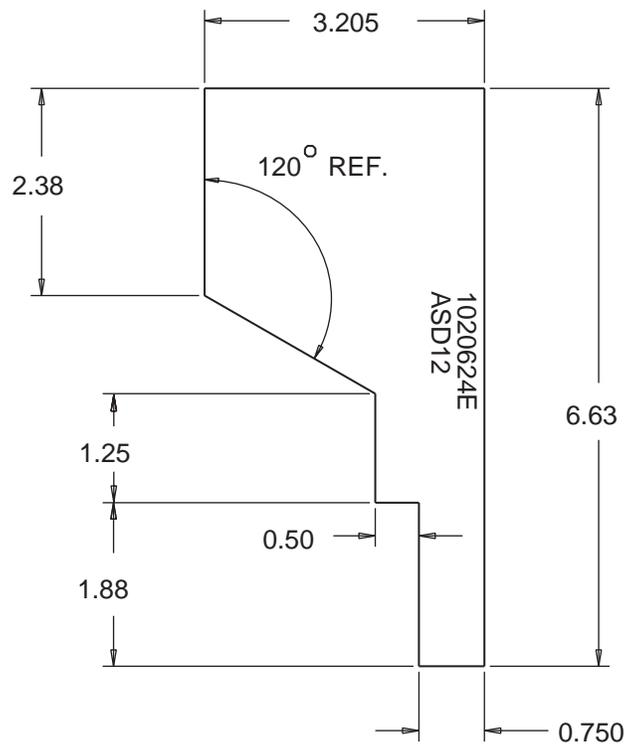

Figure 12. Drive Centering Template 1020624E
3. Position the drive unit at the center trim height. This is determined by setting the drive unit ball joint in the exact center of the socket. Determine this measurement using the Thrust Ball Centering Gauge supplied with the package. See Figures 12 and 13. Lay the tool against the ball shoulder and adjust the unit so that the tool fits evenly all the way around the circumference of the socket. This assures that the unit is in line with the socket and input shaft so that the entire unit is in a straight line. This is referred to as the *neutral running angle*.